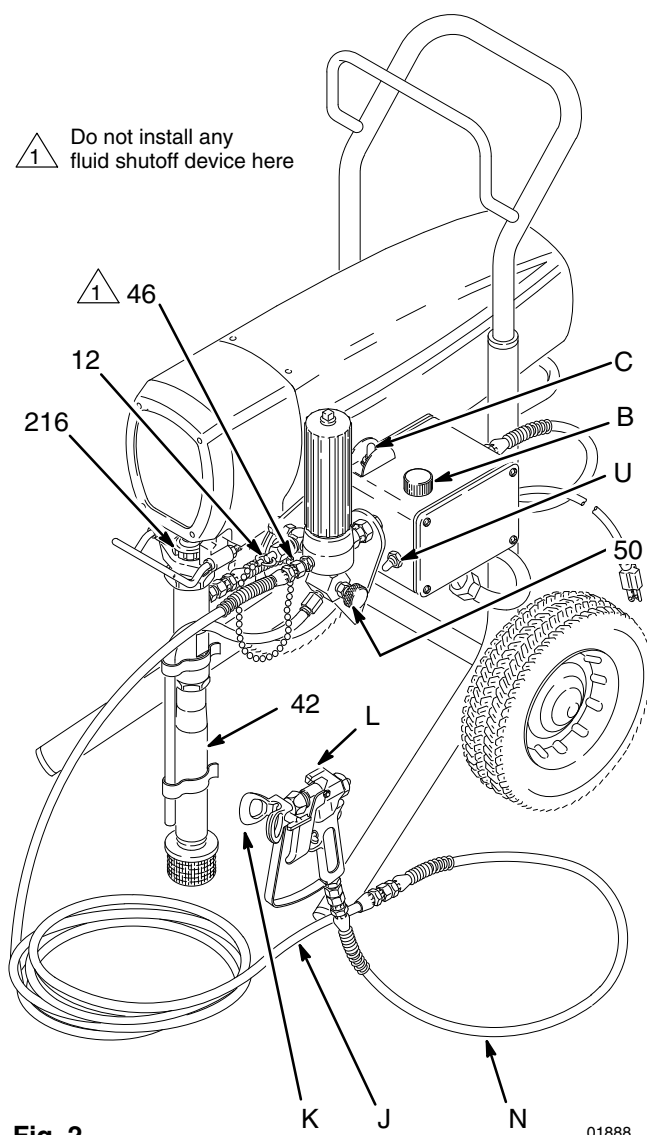

Fig. 2
3. Never install any shutoff device between the filter and the hose. See Fig. 2.
## Startup (Fig. 2)